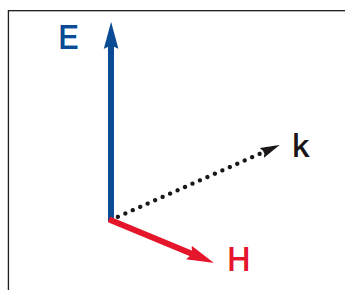

Figure 1. The field vectors of light.
Natural light is a transverse electromagnetic wave with electric (E) and magnetic (H) fields perpendicular to each other (Fig. 1). The two fields are also perpendicular to the wave's direction of travel (k).